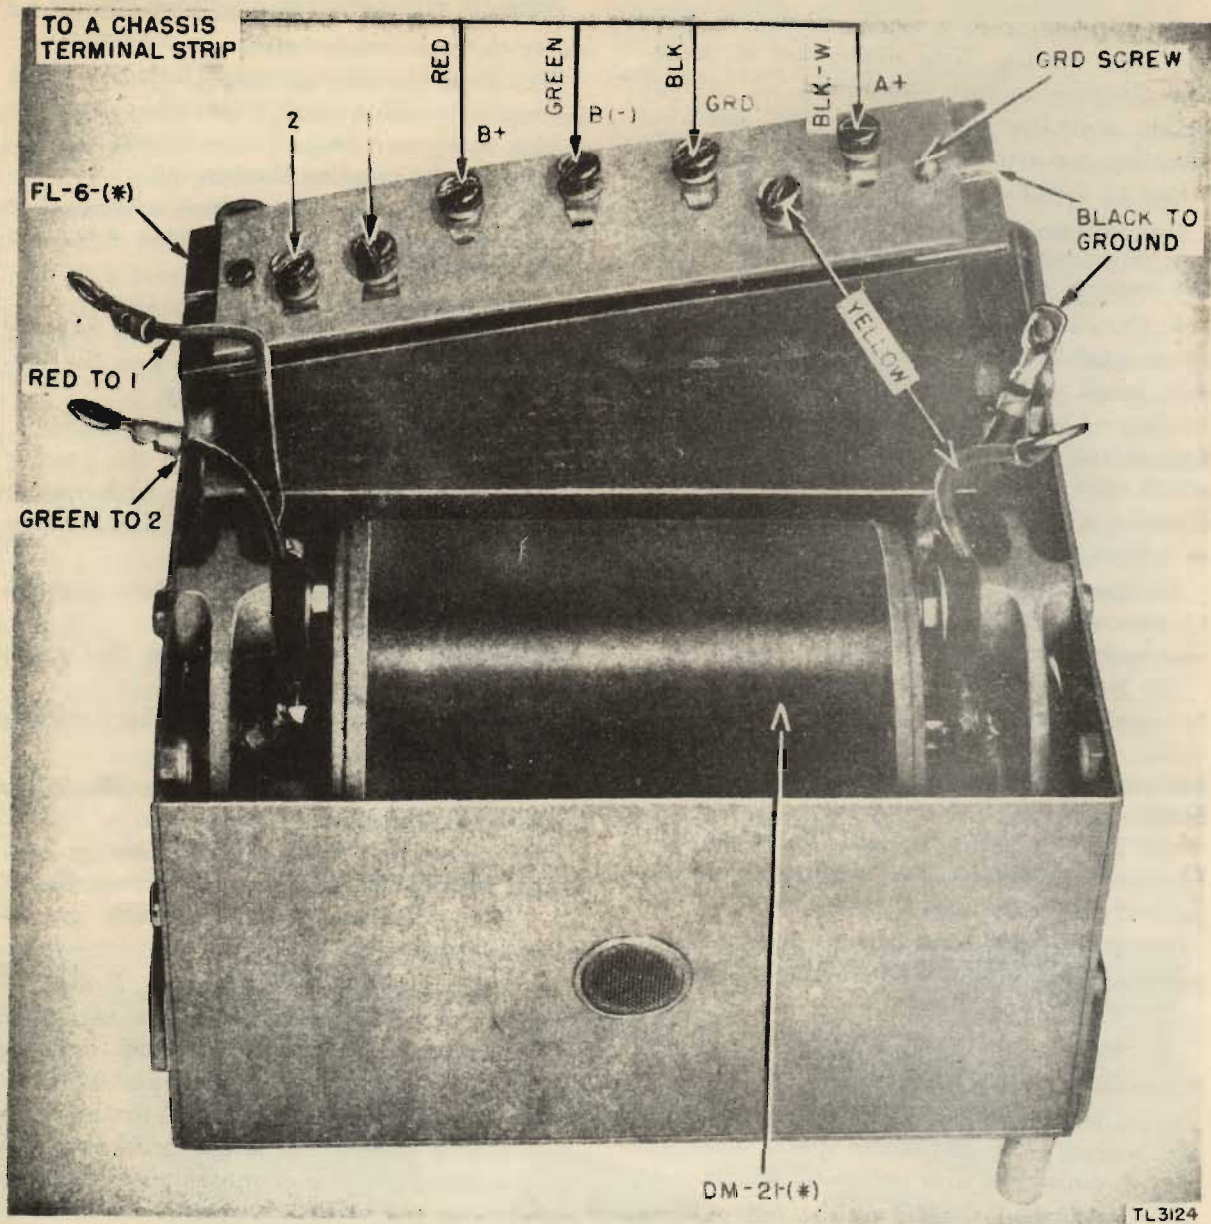

Figure 9. Filter FL-6-(*) and Dynamotor DM-21-(*).
(1) Insert the spacer shims in the bearing bracket; mount the bearing bracket on the low-voltage end of the stator assembly.
(2) Connect the wires to the brush holder.
(3) Insert the spacer shims in the bearing bracket; slide the bearing on the high-voltage end of the armature into the high-voltage bearing bracket.
(4) Slide the armature into place through the stator assembly.
(5) Insert the tie bolts through the stator assembly and tighten the nuts.
(6) Connect the wires to the high-voltage brush holder.
(7) Check end play in armature (should be 0.005 to 0.015 in.).
(8) Pack outer side of each bearing two-thirds full of Grease, General Purpose No. 2, U. S. specification 2-108; replace grease-retainer cap screw.
e. FILTER PACK (Figs. 9 and 10). If the dynamotor output voltage is low, if no output is obtained, or if the dynamotor will not start when connected to Filter FL-6-(*), check chokes and capacitors for open or short circuits.